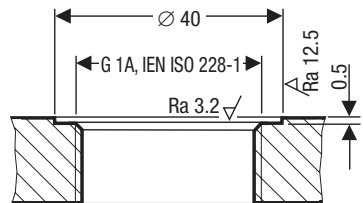

Fig. 6
- The seating surfaces of the standpipe or the flange provided on the vessel must be accurately machined, **Fig. 6!**
6. Check the sealing surfaces. **Fig. 6**
7. Place supplied joint ring **20** onto seating surface of the threaded standpipe or flange. **Fig. 6**